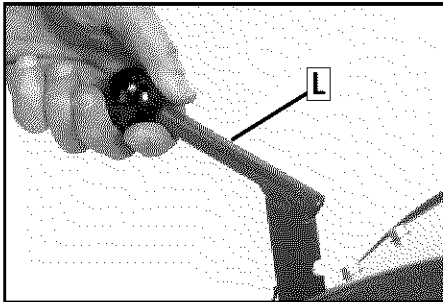

Figure 2-9: Put lever in second notch.
1. With the tiller on level ground, pull the Depth Regulator Lever (L, Figure 2-9) back and then slide it to the second notch from the top. NOTE: If the lever does not move, lift the tine hood flap and look for a plastic tie securing the lever in place. Cut and remove the tie.
- With the unit on level ground, move the Depth Regulator Lever (L, Figure 2-9) up or down until the engine is level.